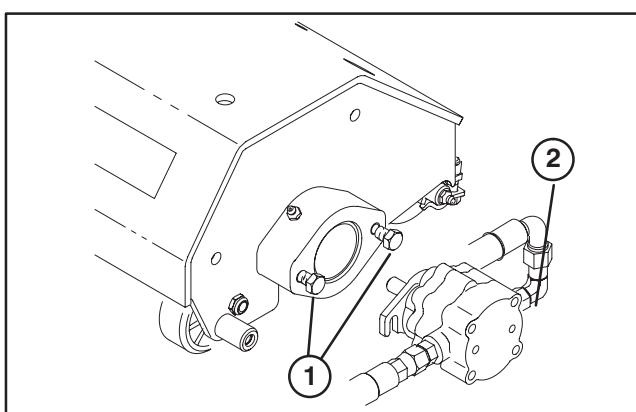

Figure 8
A. Loosen the mounting capscrews and washers for the reel motor to each tri-roller. Leave approximately 1/2 in. of threads exposed on each mounting capscrew (Fig. 8).